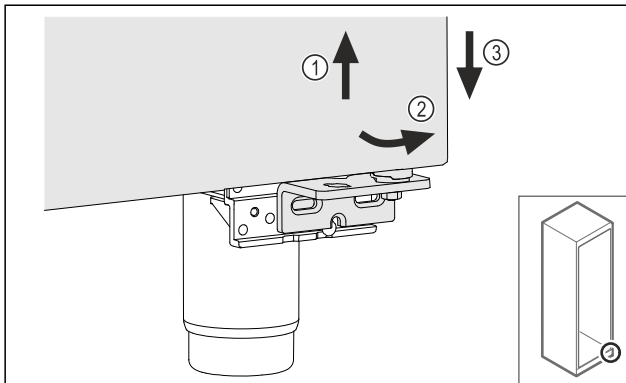

Fig. 19
- ▶ Lift the door slightly Fig. 19 (1), tip it forward Fig. 19 (2) and lower it Fig. 19 (3).